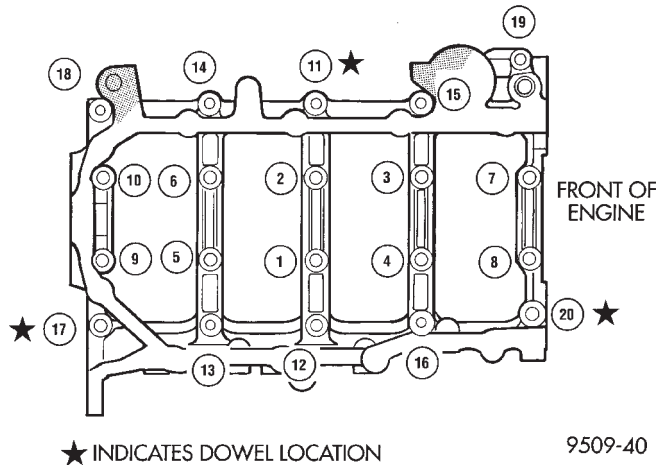

Fig. 79 Main Bearing Caps/Bedplate Torque Sequence
(5) Install lower main bearings into main bearing cap/bedplate. Make certain the bearing tabs are seated into the bedplate slots. Install the main bearing/bedplate into engine block.
(6) Before installing the bolts oil threads with clean engine oil, wipe off any excess oil.
(7) Install main bearing bedplate to engine block bolts 11, 17 and 20 finger tight. Tighten this bolts down together until the bedplate contacts the cylinder block. Torque bolts to 30 N·m (22 ft. lbs.) (Fig. 79).
(8) Install main bearing bedplate to engine block bolts (1 – 10) and torque each bolt to 81 N·m (60 ft. lbs.) in sequence shown in (Fig. 79).
(9) Install main bearing bedplate to engine block bolts (11 – 20), with baffle studs in positions 12, 13 and 16 and torque each bolt to 30 N·m (22 ft. lbs.) in sequence shown in (Fig. 79).
(10) After the main bearing bedplate is installed, check the crankshaft turning torque. The turning torque should not exceed 5.6 N·m (50 in. lbs.).
(11) Install oil pump. If crankshaft end play is to be checked refer to service procedures in this section.
(12) Install crankshaft sprocket.
(13) Install oil filter adapter and filter.
(14) Install oil pan and structural collar. Refer to procedures outlined in the section.
(15) Perform camshaft and crankshaft timing relearn procedure as follows: